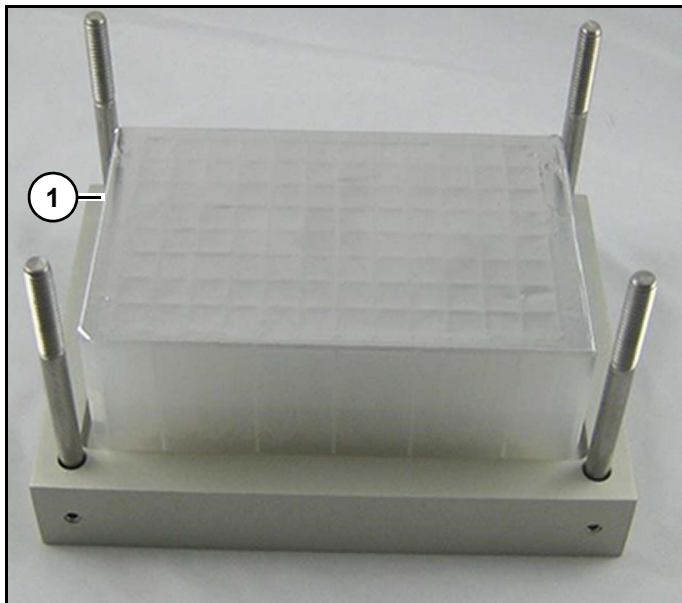

Figure 118
3. Place 96 well plate (1) (Figure 118) into bottom of deprotection chuck.